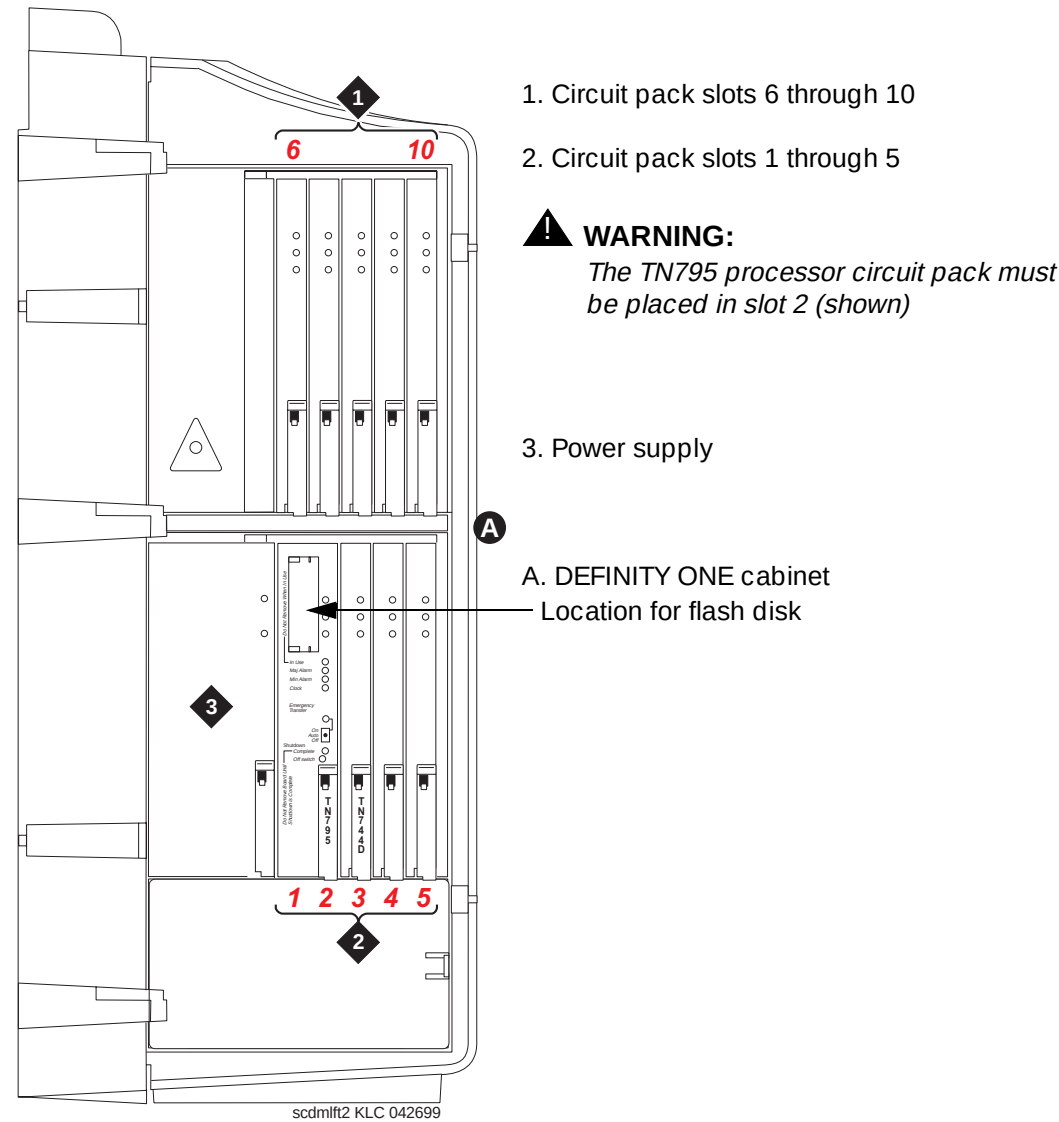

Figure 1-1. Compact Modular Cabinet (CMC) slot configuration
- See Figure1-1 on page1-8.
The TN795 Processor circuit pack is the heart of DEFINITY ONE. It uses Microsoft Windows NT as its operating system, allowing for graphical user interaction, network connections, standard applications, and coresidency and multitasking of applications. It is always found in slot 2 of the carrier (See Figure1-1 on page1-8).
The TN795 Processor circuit pack must be located slot 2. Figure1-1 on page1-8 also shows the PCMCIA disk drive location